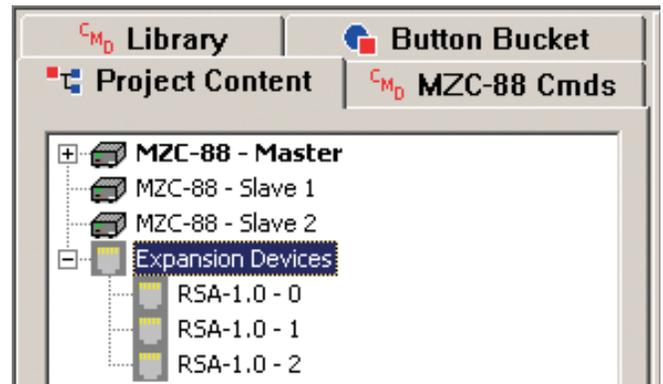

Figure 5
- Left click OK in the Expansion Device Setup Window to set the Address. An RSA-1.0 icon will appear at the bottom of the Project Content Window under Expansion Devices as RSA-1.0-0 (assuming Address '0' was selected). If multiple RSA-1.0s are added, they will all appear and each will indicate its Address, RSA-1.0-0; RSA-1.0-1; RSA-1.0-2; etc. as shown in Figure 5.